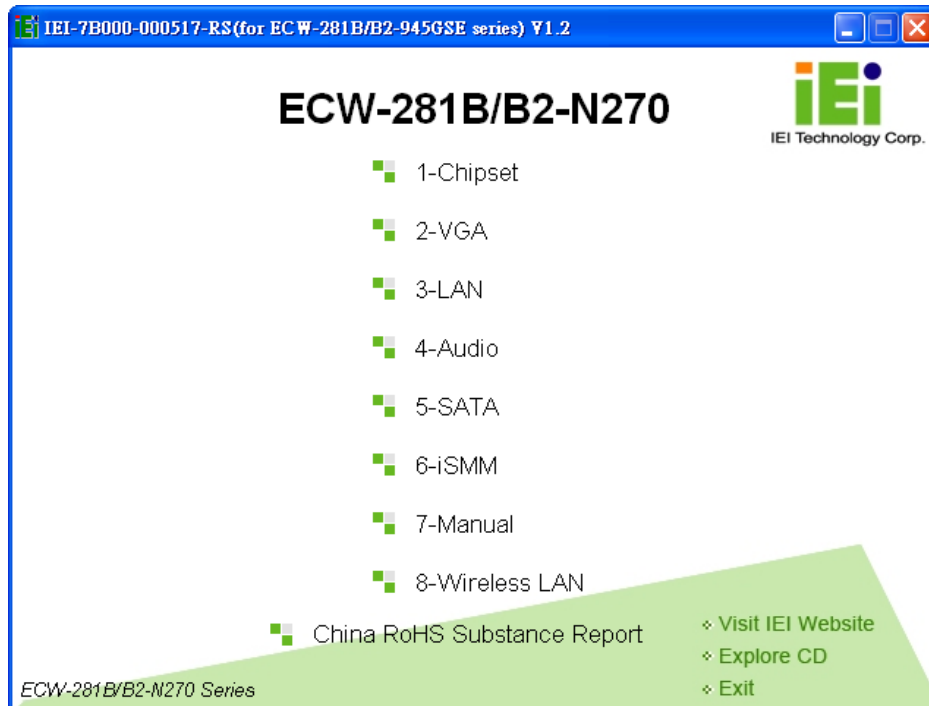

Figure 6-1: Drivers
Step 2: The list of drivers in **Figure 6-1** appears.
Step 1: Access the driver list shown in Figure 6-1. (See **Section 6.2**)
- Step 1:** Access the driver list shown in Figure 6-1. (See **Section 6.2**)